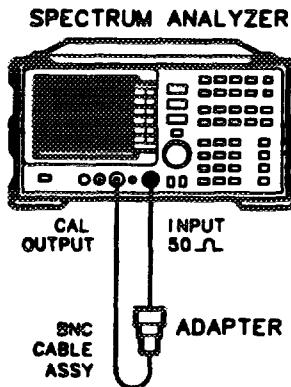

Figure 3-4. Resolution Bandwidth Switching and IF Alignment Uncertainty Test Setup
1. Connect the HP 8562A/B CAL OUTPUT to the RF INPUT 50Ω as shown in Figure 3-4.